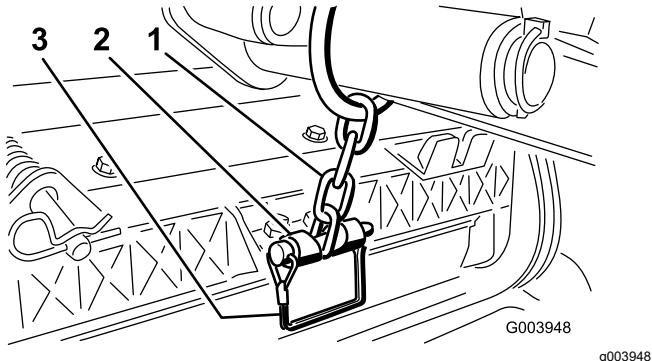

Figure 10
13. Secure the lift-arm chain to the chain bracket with the snapper pin (Figure 10).